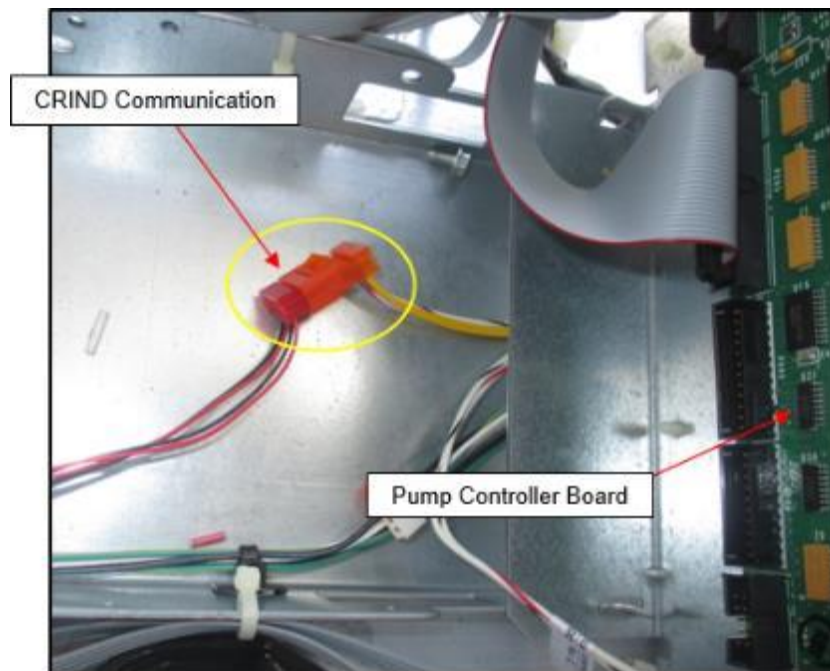

Fig 2.16 – Location of 4-wire CRIND communication wires
15. **For the Encore 300 only**, Unplug the 4-wire CRIND communications cable assembly. Typically, this is located lying on the bottom of the electronics cabinet (underneath the board bracket). (Fig 2.16). Mark the disconnected connectors for re-connection during the installation.